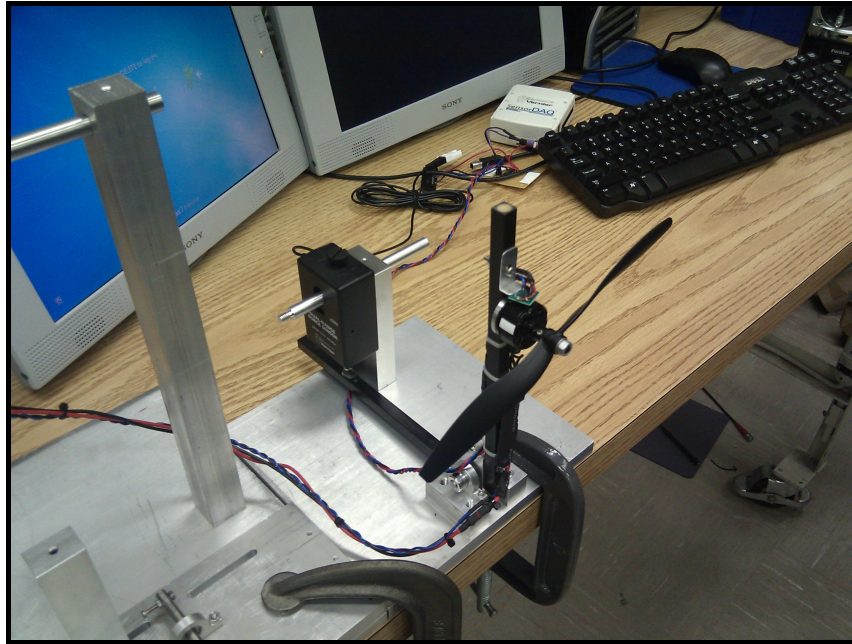
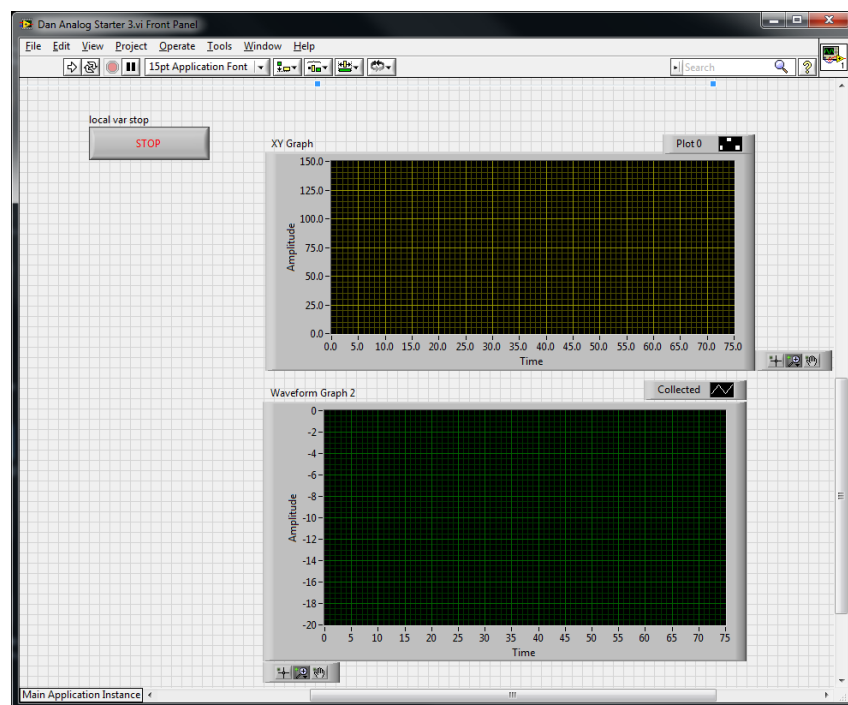

Figure 2.2: Motor thrust measurement rig.
Figure 2.3: A Labview program provided in lab will allow you to capture and save motor rpm and motor thrust force.
4. Measure the motor thrust coefficient  $k_F$ . At the workbench where the test stand is set up (Figure 2.2), run the hummingbird vehicle which will cycle the test motor through 15 steps of thrust, each lasting for 2 seconds. Run the Labview code which is provided in lab to capture and save motor rotations per second and thrust force (Figure 2.3). At the end of the cycle, hit the Stop button in Labview to save the captured data. Move the saved data file into the N:/scratch/ae483/ folder, which you can then access in the same way from the other bench workstations. At your bench, be sure to move your data file to your U:/ drive.